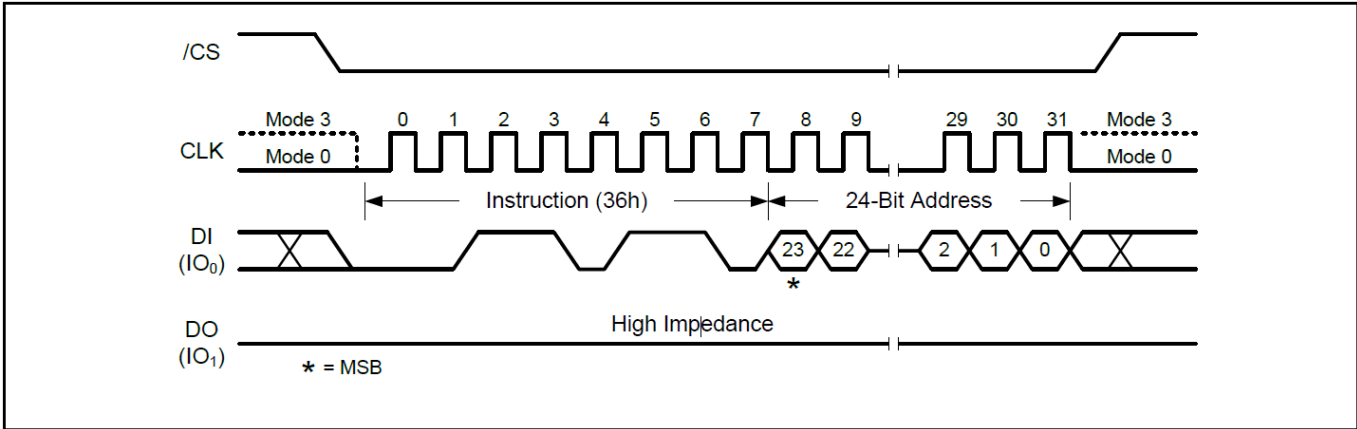

Figure 36. Individual Block/Sector Lock Instruction for SPI Mode
To lock a specific block or sector as illustrated in Figure 36, an Individual Block/Sector Lock command must be issued by driving /CS low, shifting the instruction code “36h” into the Data Input (DI) pin on the rising edge of CLK, followed by a 24-bit address and then driving /CS high. A Write Enable instruction must be executed before the device will accept the Individual Block/Sector Lock Instruction (Status Register bit WEL= 1).